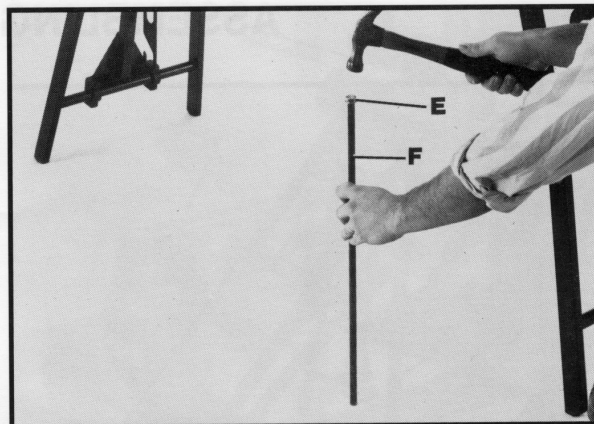

Fig. 7
4. Locate axle and axle cap and hammer axle cap (E) onto one end of axle (F), as shown in Fig. 7.